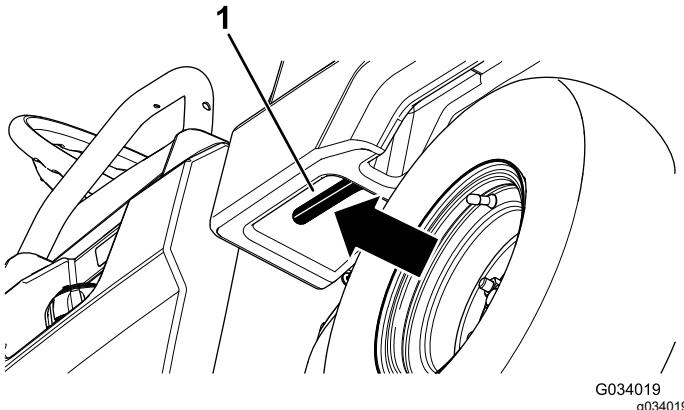

Figure 11
1. Pull the lever on left, inside of the cargo box toward you and lift the cargo box up (Figure 11).
1. Raise the cargo box slightly by lifting up on the latch lever (Figure 11).